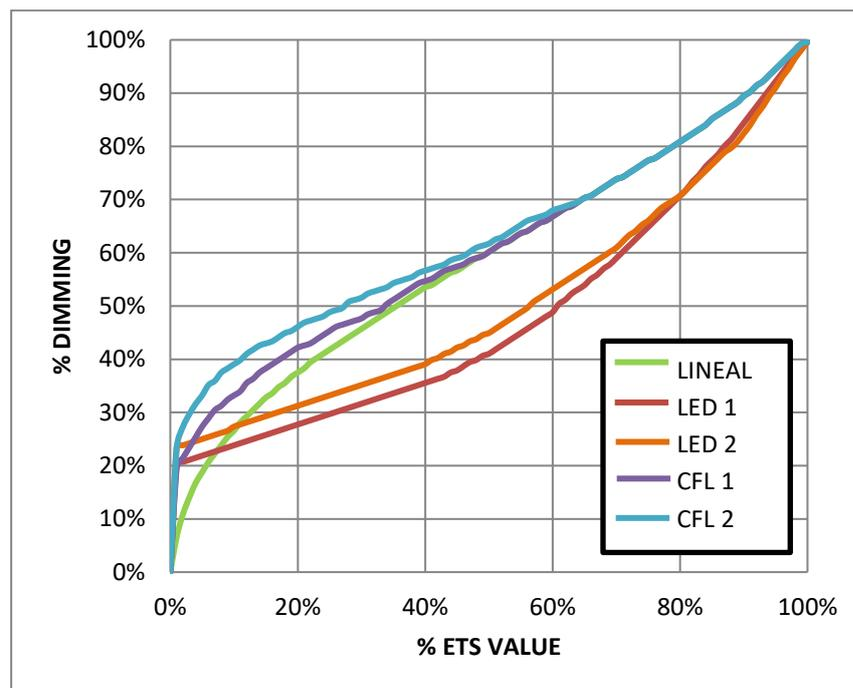

Figure 9 Dimming Patterns for LED and CFL loads.
- **Dimming Pattern:** [Linear / Curve 1 / Curve 2]. Figure 9 shows the different regulation curves for each load type.